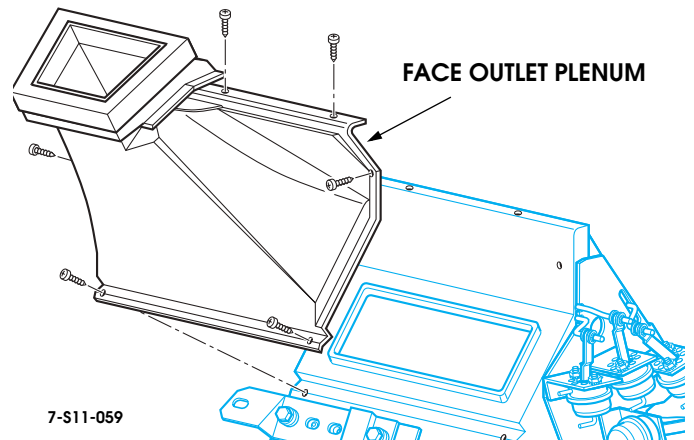

Figure 11-76: Face Duct Outlet Plenum
6. Remove face duct outlet plenum (Figure 11-76).